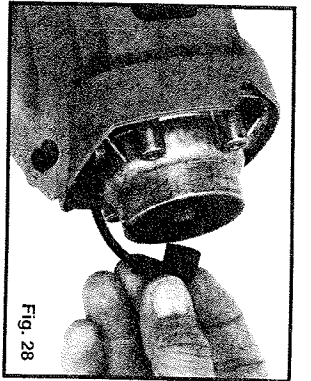

Fig. 28
4. Pull wire and boot assembly off spark plug (see Fig. 28).